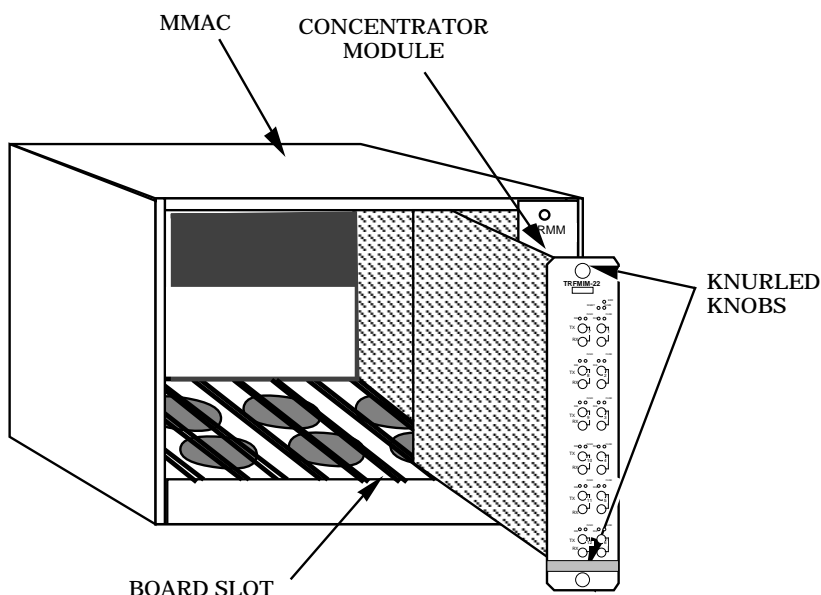

Figure 3-2 Installing the Concentrator Module
2. Remove the selected blank panel from the MMAC and slide the concentrator module into the MMAC card cage (see Figure 3-2). Be sure that the card is in the card guides at the top and bottom slots of the card cage.